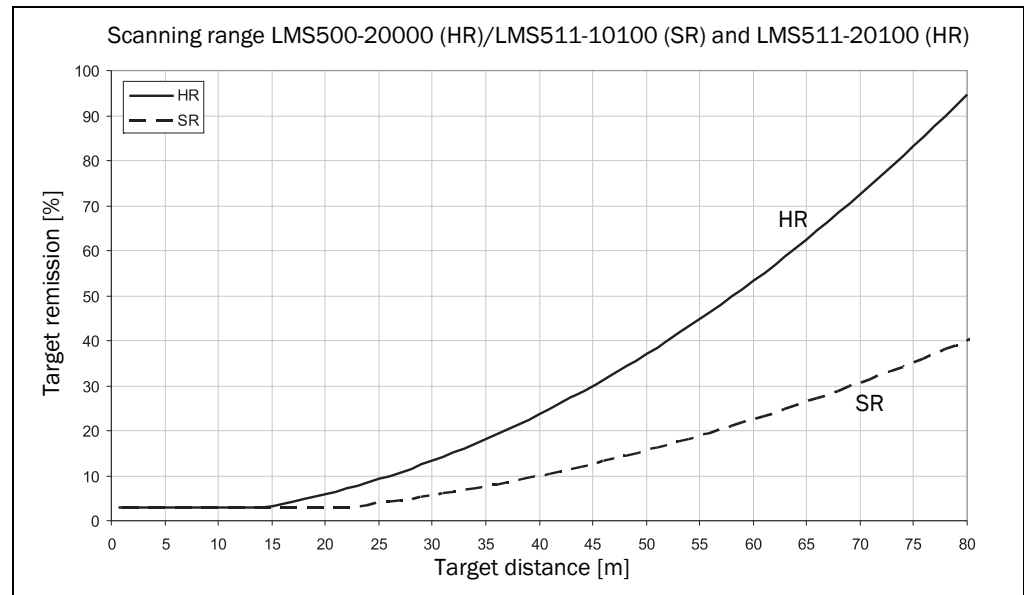

Fig. 12: Scanning range of the LMS5xx as a function of the target remission
The scanning range of the LMS5xx is dependent on the remission of the objects to be detected. The better a surface reflects the incident radiation, the greater the scanning range of the LMS5xx. The diagrams in Fig. 12 indicate the relationship between remission and detectability.
Example to Fig. 12: Up to a distance of 15 m the LMS5xx (HR) can detect objects from 3% remission. At a distance of 80 m objects are only detected if they have a remission > 95%.
- The diagram in Fig. 12 is only applicable if no filters are configured.